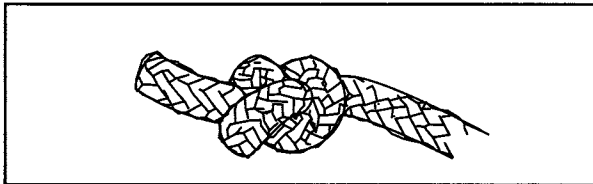

**Fig. 51**
1. Pull rope out partially. Tie a temporary knot (4), **Fig. 51**.
2. Remove insert (1) from rope handle (2). Pull knot out of rope insert.
4. Pull rope (3) out as far as it will go.